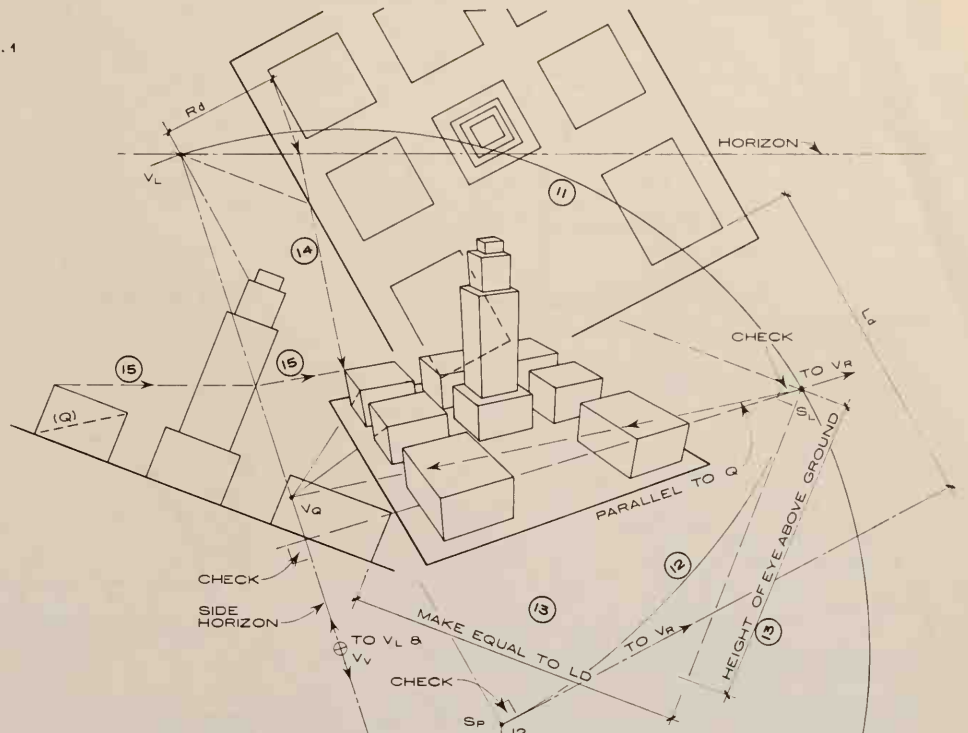

FIG. 2 PROJECTING THE PERSPECTIVE
PROJECTING THE PERSPECTIVE - FIG. 2
4. Vanishing points of inclined lines are found in same manner as in two-point perspective: see diagonal (Q) in Fig. 2.